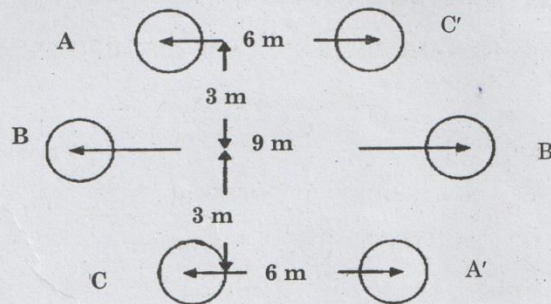

Figure. 12.b
- (b) A three phase circuit line consists of 7/4.5 mm hard drawn copper conductors. The arrangement of the conductors is shown in Figure.12.b. The line is completely transposed. Calculate inductive reactance per phase per km of the system. (16)